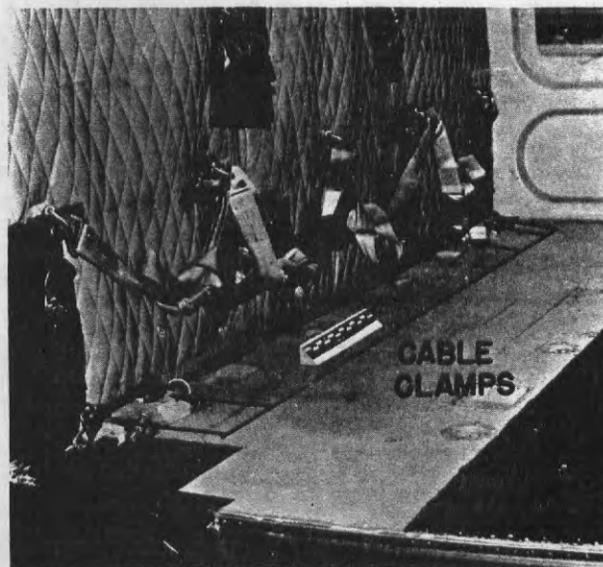

Figure 81. UH-1A/B/C with modified anchor line cable installed.
(2) *130-inch floor anchor line cable assembly.* This cable is designed for use in modified UH-1A/B/C helicopters. It is a 1/4-inch steel cable, specification No. MIL-C-5424 or MIL-C-1511. It is secured to the specified tiedown rings using five cable clamps and supported by four 4 x 4 x 2-inch wooden blocks (figs. 81 and 82).